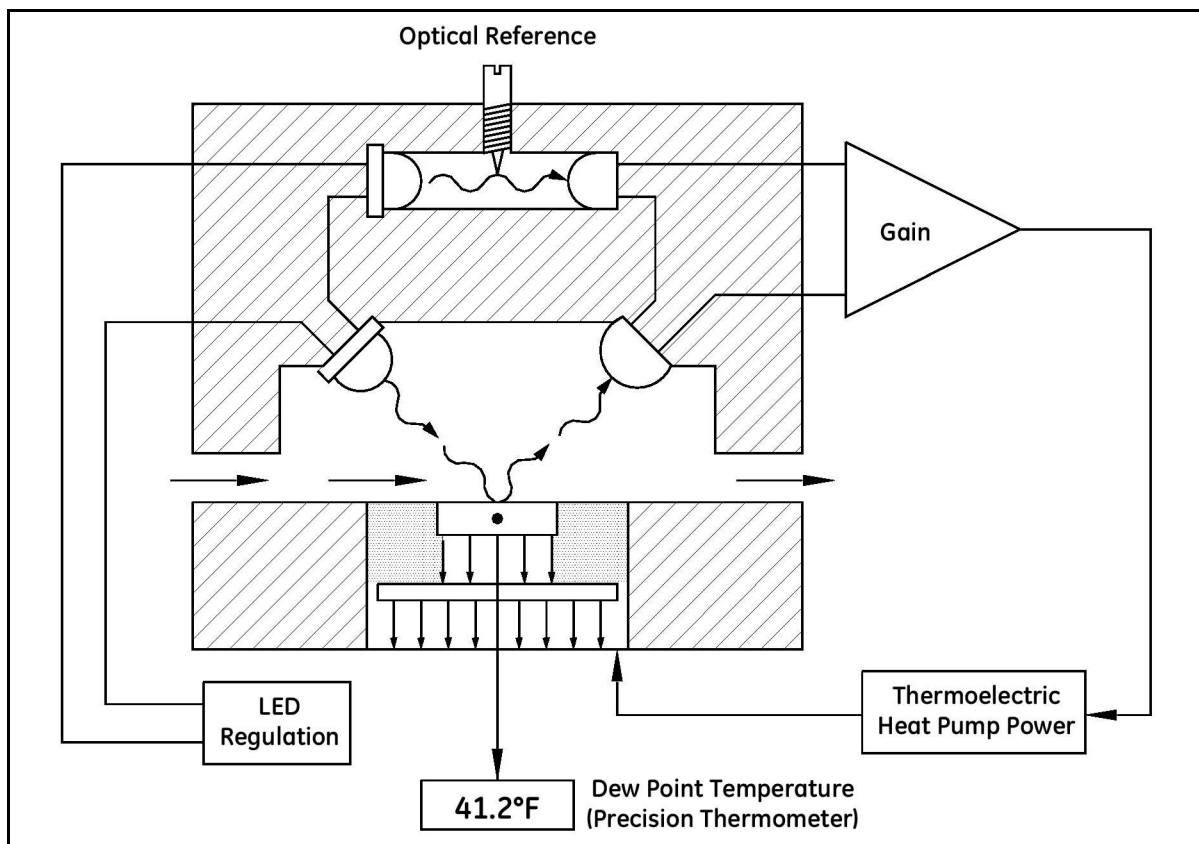

Figure 2: Chilled-Mirror Hygrometer Diagram
Figure 2 below illustrates how Panametrics hygrometers detect and measure dew point. The condensate mirror is illuminated with a solid state, infrared emitter (IR). A photodetector monitors the IR light reflected from the mirror. The photodetector is fully illuminated when the mirror is clear of dew, and it receives less light as dew forms. A separate LED and photodetector pair are used as a known reference to compensate for any thermally induced changes in the optical components. The photodetectors are arranged in an electrical bridge circuit, the output current of which is proportional to the light reflected from the mirror. The bridge output controls the electrical current to the thermoelectric cooler.